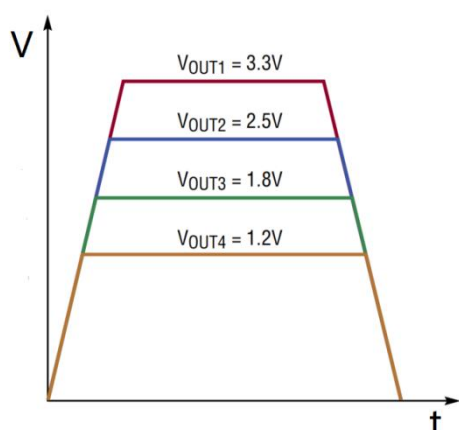

Figure 6 Output Coincident Tracking Waveform
The coincident output tracking can be recognized as a special ratiometric output tracking which the master's output slew rate (MR) is the same as the slave's output slew rate (SR), as waveform shown in Figure 6.